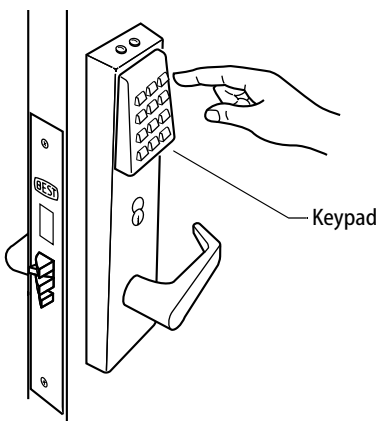

Figure 19
- 1 Enter the temporary operator PIN **99998** on the keypad as shown in Figure 19.